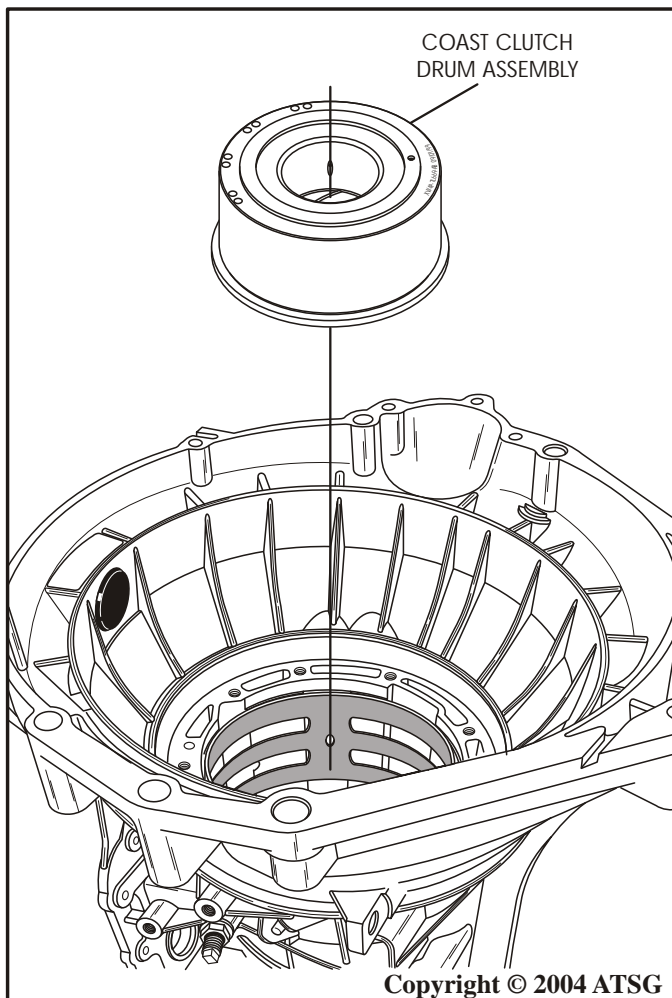

Figure 37
31. Remove the OD/Coast clutch drum assembly, as shown in Figure 37, and set drum aside for the component rebuild section.